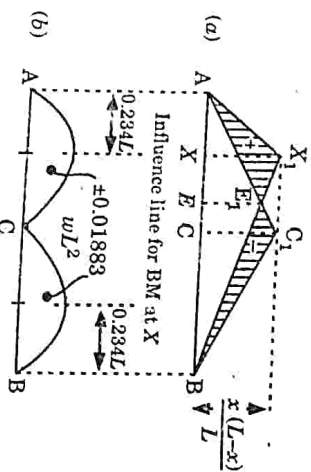

Fig. 5.18.2.
1. Fig. 5.18.2(a) shows the influence line diagram of bending moment at any section X of a three-hinged parabolic arch of span L and rise h.